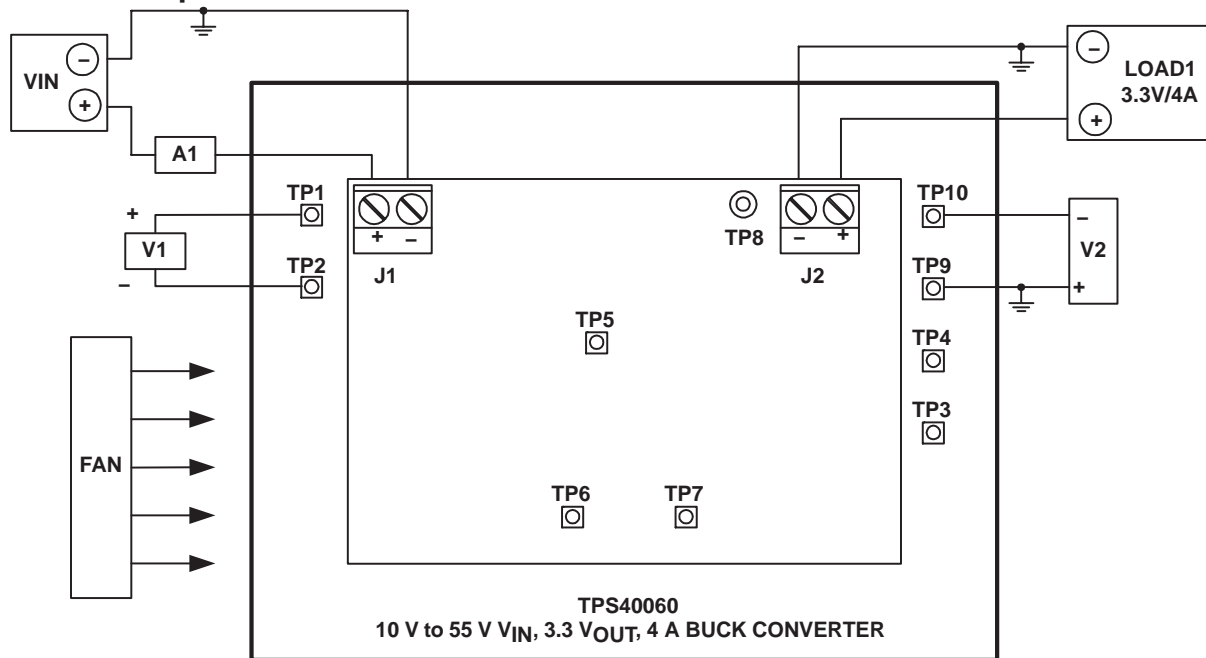

Figure 2. EVM Test Set-Up
Shown in Figure 2 is the basic test set up recommended to evaluate the TPS40060EVM. Please note that although the return for J1 is the same as the J2 return, the  $V_{IN}$  and LOAD1 connections should remain separate as shown below.
The input voltage source shall be a variable DC source capable of supplying between 0 Vdc and 55 Vdc at no less than 2 Adc, and connected to J1 as shown in Figure 2. For fault protection to the EVM, good common practice is to limit the source current to no more than 2 Adc for a 10 V to 55 V input. A DC ammeter, A1 should also be inserted between VIN and J1 as shown in Figure 2 for input current measurements. A DC voltmeter, V1 should be connected to TP1 and TP2 for  $V_{IN}$  measurements.
A network analyzer can be connected directly to TP3 and TP4 shown in Figure 2. The TPS40060EVM provides a 50  $\Omega$  resistor (R9) between the output and the voltage feedback to allow easy non-invasive measurement of the control to output loop response.
2. Prior to connecting the DC input source,  $V_{IN}$ , it is advisable to limit the source current from  $V_{IN}$  to 2-A maximum. Connect the ammeter A1 (0 A to 2 A range) between  $V_{IN}$  and J1 as shown in Figure 2. Make sure  $V_{IN}$  is initially set to 0 V.
3. Connect LOAD1 to J2 as shown in Figure 2. Set LOAD1 to constant current mode to sink 0 Adc before  $V_{IN}$  is applied.
4. Connect the voltmeter, V2 to TP9 and TP10 as shown in Figure 2.